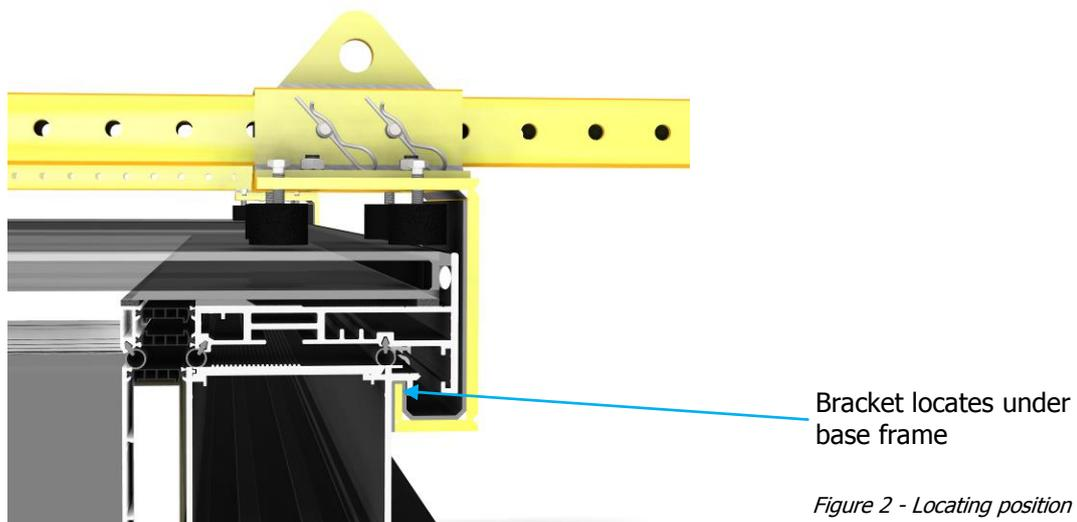

Figure 2 - Locating position
2. Carefully place the lifting bracket frame on top of the Skydoor. Then slide the brackets in until they stop against the base extrusion (*Figure 2*).
5. Tighten the rubber feet on to the glass until the bracket is located in the base extrusion profile (*Figure 2*). Do not over tighten, the bracket only needs to locate so it does not fall off but does not need to be clamped on.